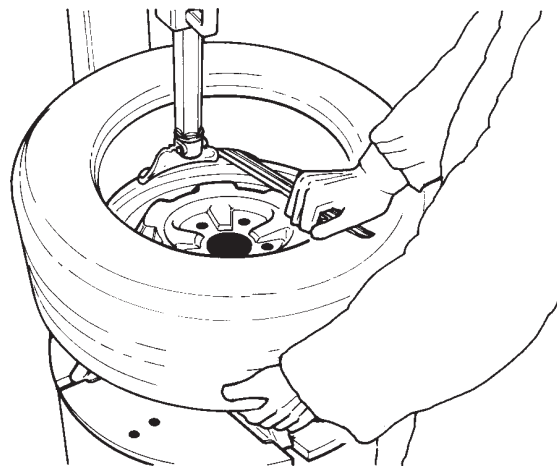

Fig. 4.1-7
H. Repeat the process for removing the lower bead. This time, lift the bead opposite to the mount/demount head to keep it in the drop center (Fig. 4.1-7).